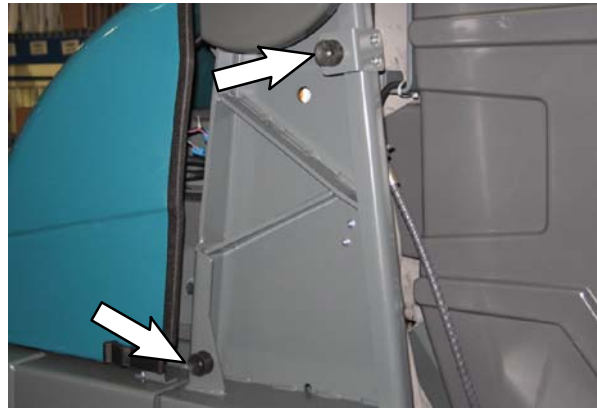

FIG. 24
31. **Machines equipped with side bumpers only:** Remove the side bumpers from the machine. Discard the bumpers and all hardware. (Fig. 24)